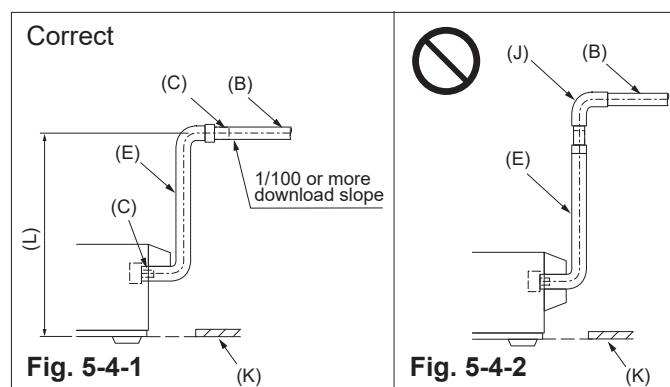

Fig. 5-4
- To bring up the drain exit, first arrange drain hose to go upward vertically, and then provide 1/100 or more downward slope. (Fig. 5-4)
- Do not perform the drain piping as shown in the poor example in Fig. 5-4.